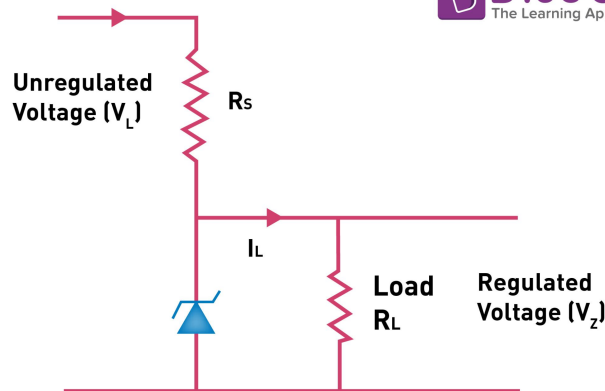

Figure 5. Zener Diode as Voltage Regulator
- Figure 5. Zener Diode as Voltage Regulator